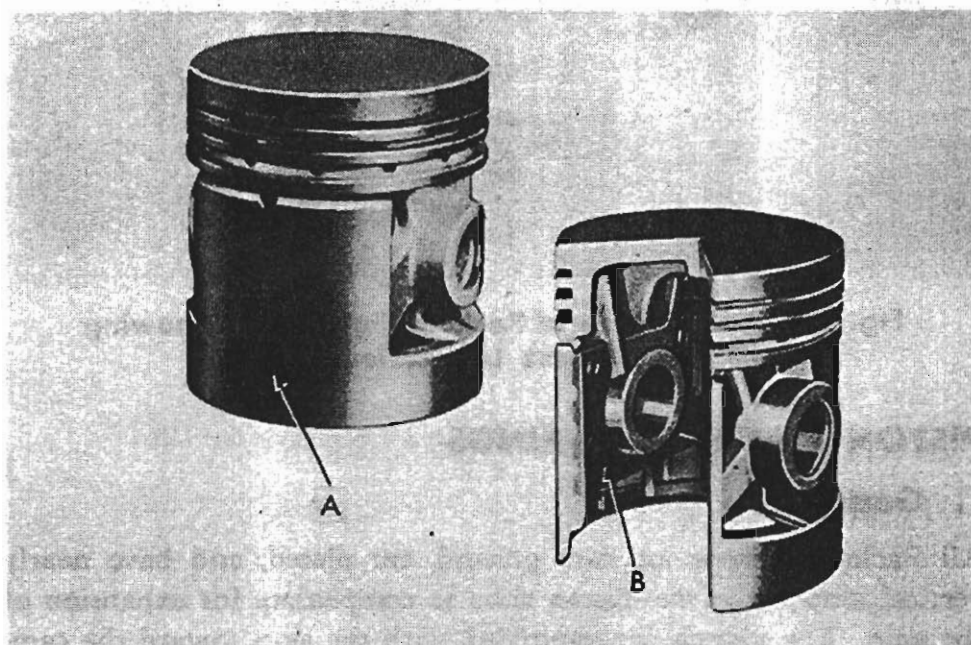

Fig. 4—Packard Piston. Slot "A" Compensates for Skirt Expansion. Strut "B" Thermostatically Controls Expansion.
Pistons are of the cam ground, autothermic aluminum alloy type with two compression rings and one oil ring above the piston pin. The pistons are tin plated and nearly vertical slots (A, figure 4) are cut in the piston skirt to compensate for expansion of the skirt. Steel plates or struts (B) imbedded in the aluminum alloy of the piston skirt thermostatically control expansion. Contrary to common practice in the industry, the slotted side of the piston is assembled toward the camshaft side of the engine.